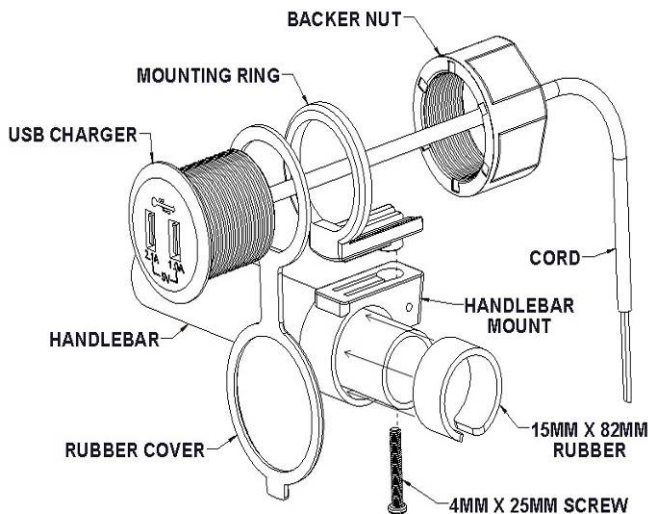

FIG. 1
1. GUIDE THE CORD FROM THE BACK OF THE USB CHARGER THROUGH THE RUBBER COVER, THE MOUNTING RING AND BACKER NUT. SEE FIG. 1.
3. TAKE THE HANDLEBAR MOUNT AND FIND A GOOD LOCATION TO MOUNT IT ON THE HANDLEBARS. PLACE THE MOUNT ON THE HANDLEBAR WITH THE SCREW HOLE TO THE FRONT ON THE BIKE AS SHOWN IN FIG. 1.
6. PLACE THE USB CHARGER ASSEMBLY IN THE HANDLEBAR MOUNT AND INSTALL THE 4MM X 25MM SCREW FROM THE BOTTOM AS SHOWN IN FIG. 1. ROTATE THE CHARGER TO THE DESIRED POSITION AND TIGHTEN THE SCREW.